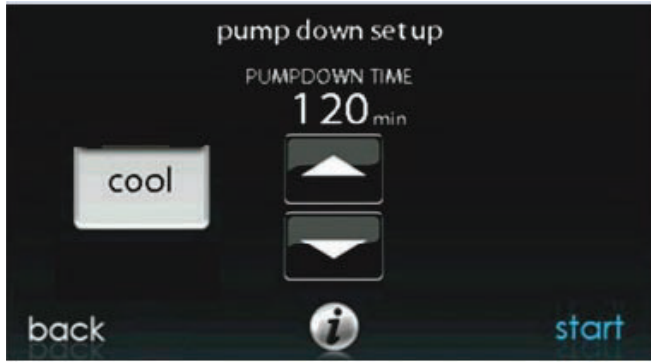

Fig. 25 – Pump Down Setup Screen
3. Pump down in COOL mode allows refrigerant to be isolated in outdoor unit. Set desired time period. Default time period for the procedure is 20 minutes. See Fig. 25.